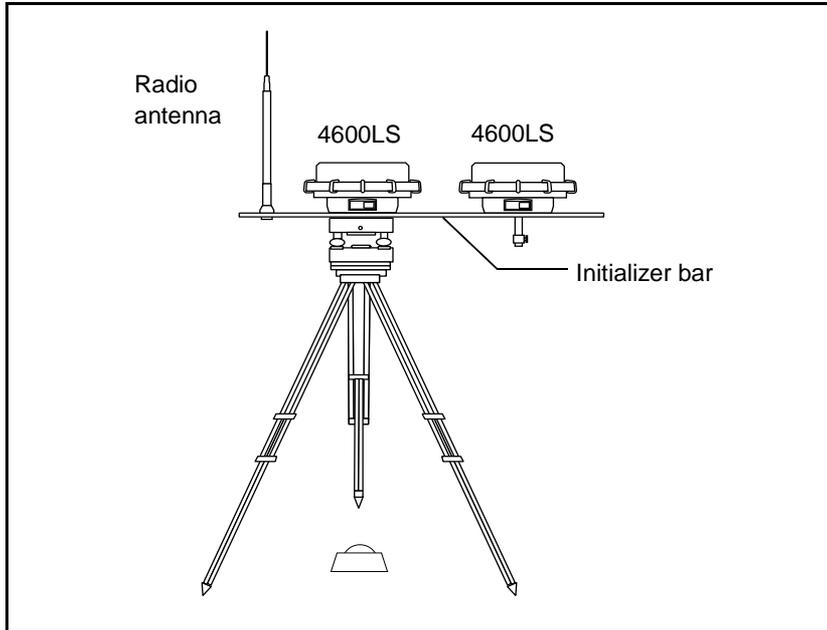

Figure 12.5 Initializer bar – method 1 (slot method)
1. Attach the roving antenna to the initializer bar as shown in Figure 12.5.
Figure 12.5 shows the initializer bar setup using Method 1 (the Slot method).